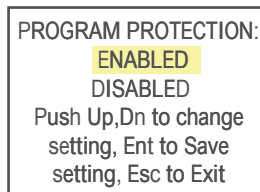
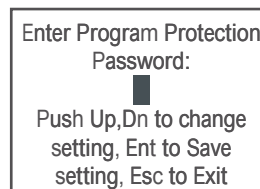

Figure 9: Program Protection Screen
Figure 10: Program Protection Password Screen
If the PP password is set to any value more than Zero, the firmware will prompt with “Enter Program Protection Password” (see **Figure 10**).
In order to get access to “Change Program Protection (PP) Password” menu, Program Protection must be disabled. If PP password is set to Zero (Disabled), entering PP Password is not required and PP can be disabled from “Program Protection” menu (see **Figure 9**). If PP Password is set to any value more than Zero, the firmware will prompt with “Enter Program Protection Password” (see **Figure 10**). The user must enter a program protection code (up to 3 digits). If the PP password is lost or forgotten, contact the factory or your distributor.